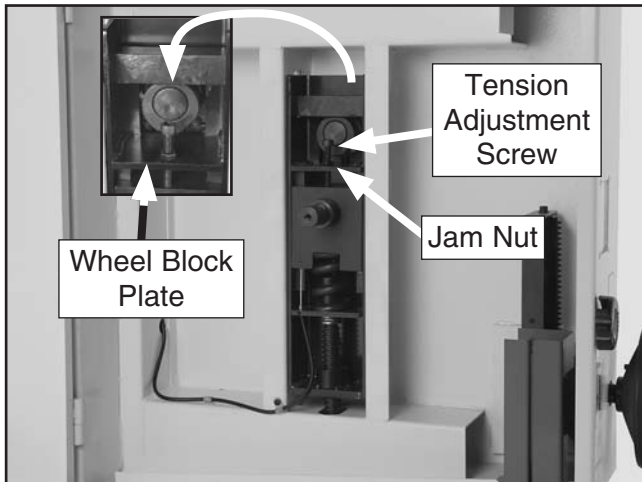

Figure 59. Example of quick release tension lever adjustment screw.
The quick release tension lever is setup correctly for use with the preinstalled 131½" blade. However, if you install a different length blade, you will need to adjust the tension lever adjustment screw (**Figure 59**) so the quick release tension lever works correctly.
5. Thread the tension adjustment screw (**Figure 59**) down until it contacts the wheel block plate, then back it off 1-2 turns.